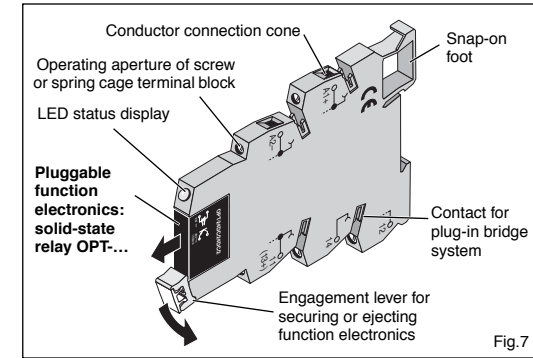

Fig.7
**4.1. Solid-State Relay (Fig.7/8)**